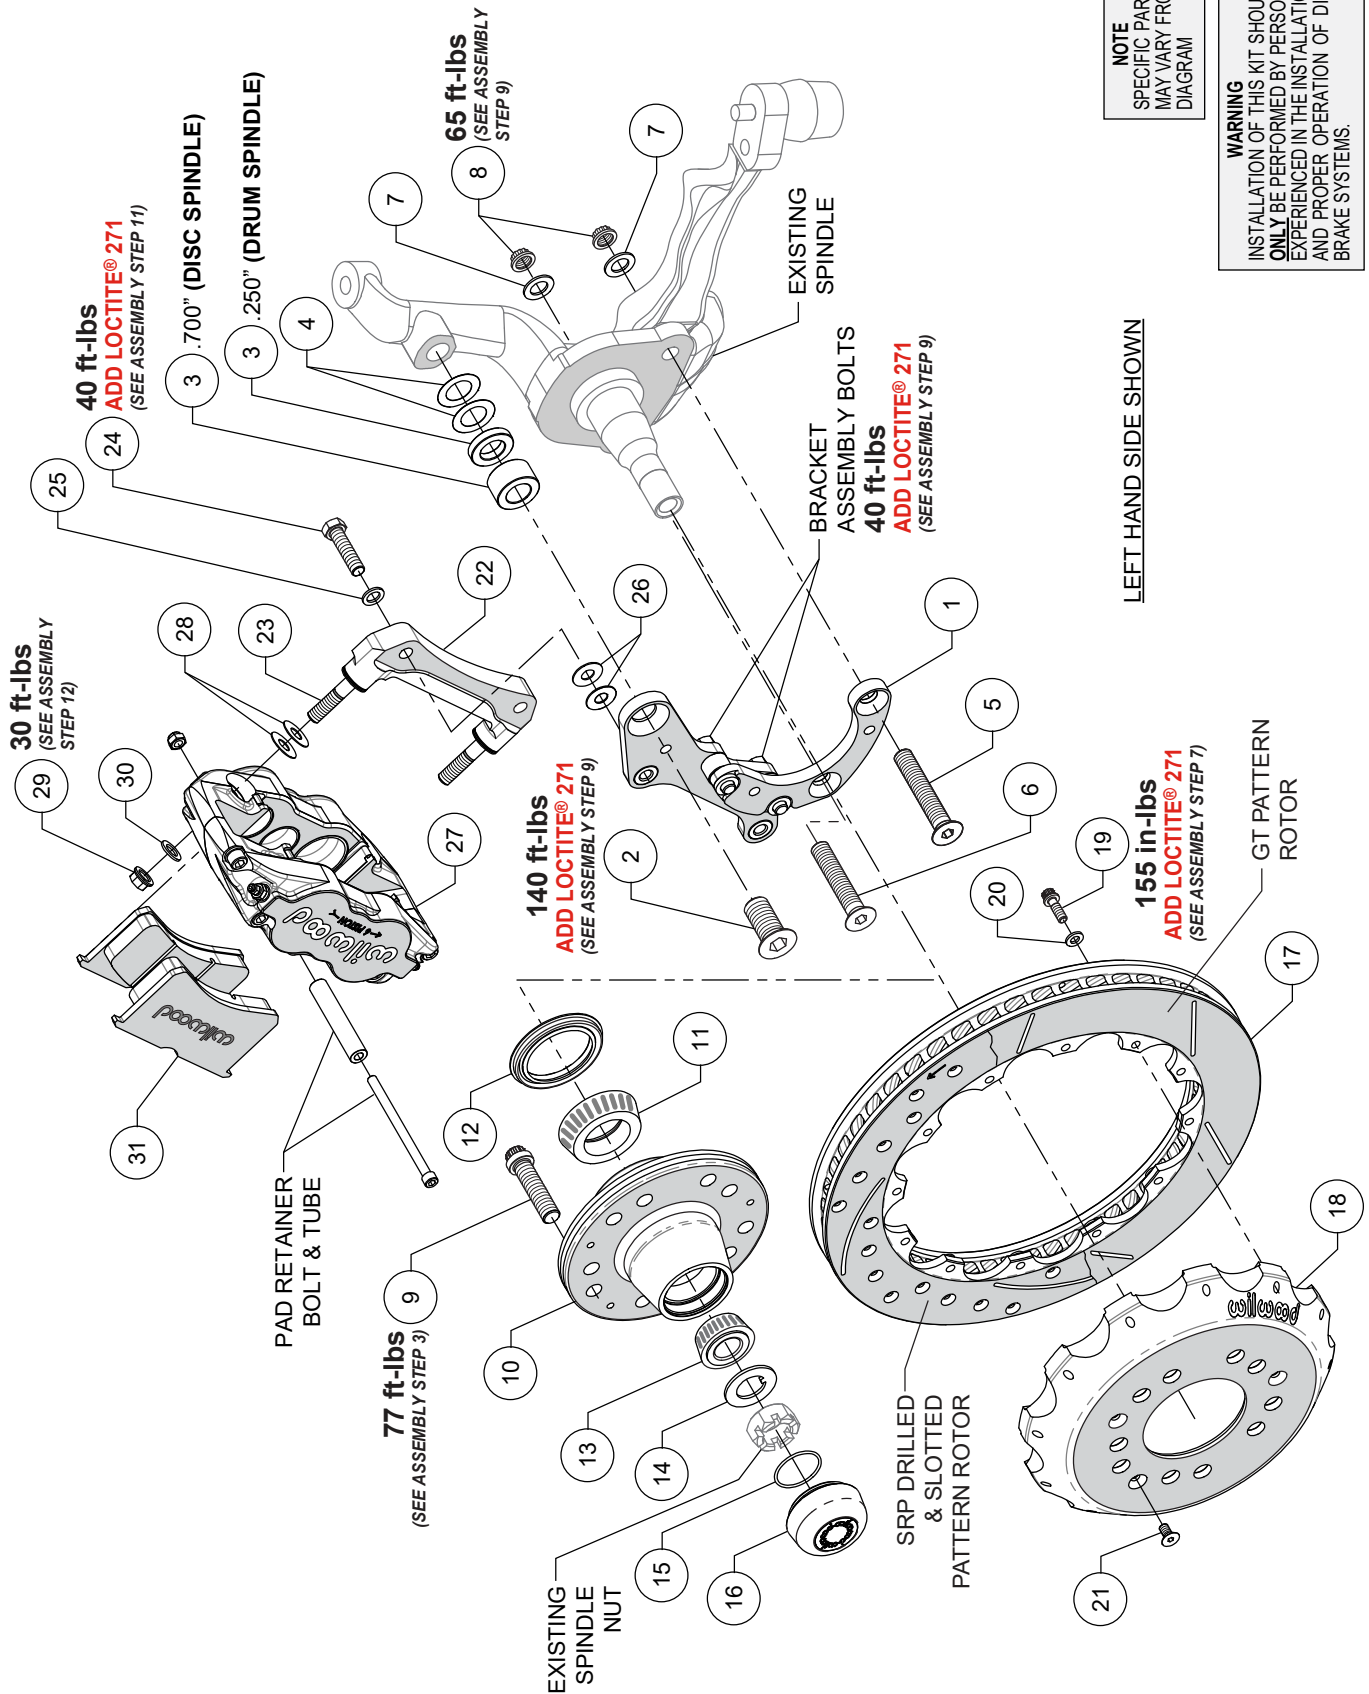
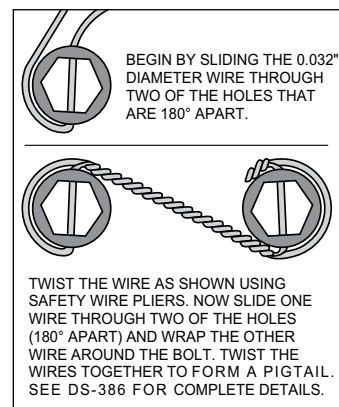
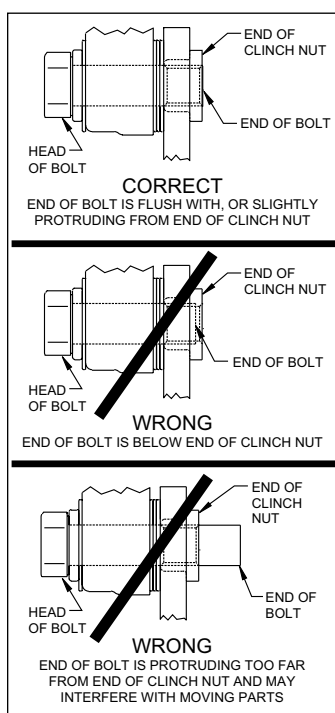

Figure 1. Typical Installation Configuration
Figure 3.
Figure 4. Clinch Nut Engagement Diagram
NOTE: Numbers in parenthesis refer to the parts list and Figure 1 on the preceding pages.
CAUTION: All mounting bolts must fully engage clinch nuts. Be sure to check that all bolts are either flush or protruding through flanged side of clinch nut after shimming, Figure 4.
STEP 1 Bracket assembly (1) should initially be installed with clean, dry threads on the mounting bolts. The bracket has been assembled at the factory for alignment purposes. **Loosen the two bolts that secure the brackets together so that the bolts are hand tight only.** This will enable the bracket assembly to be adjusted to accommodate various spindle tolerances during assembly. Orient the bracket (1) as shown in Figure 1, and Photo 1. Install using bolt (2) on the upper hole of bracket while doing one of the following depending on type of spindle being used:
For drum spindle: Use .250" thick spacer (3) and two .010" shims (4) between the spacer and spindle as shown in Figure 1 and Photo 2.
For disc spindle: Use .700" thick spacer (3) and two .010" shims (4) between the spacer and spindle as shown in Figure 1 and Photo 3.
STEP 2 Install bolts (5 and 6), washers (7) and nuts (8) in the lower holes, Figure 1. Note the location of the longer bolt (5). Temporarily tighten the mounting bolts (5), followed by the two bracket-to-bracket bolts. **NOTE:** *The bracket must fit squarely against the mounting points on the spindle.* Inspect for interference from casting irregularities, machining ridges, burrs, etc. Later, after the bracket alignment has been checked, the nuts will be torqued to specification.
STEP 3 Install wheel studs (9) from the backside of the hub (10), Photo 4. Torque to value shown in Figure 1. **NOTE:** *There are two five lug patterns in the hub (5 x 4.50" and 5 x 4.75").* Ensure the correct hub stud pattern is being used to fit the wheel application.
STEP 4 Pack the large inner bearing cone (11) with high-temp disc brake bearing grease (available from your local auto parts store) and install into the backside of the hub (10), Figure 1 and Photo 5. Install the grease seal (12) by pressing into the backside of the hub (10), Photo 5.
STEP 5 Pack the small outer bearing cone (13) with high temperature disc brake bearing grease and install into the front side of the hub (10). Slide the hub assembly onto the spindle. Secure using spindle washer (14) and existing OEM spindle nut. Adjust bearings per OEM specifications and install new cotter pin (not supplied).
STEP 6 Screw dust cap (16) into hub (10). Friction created by the o-ring (15) on the dust cap keeps it from unscrewing. **NOTE:** *The O.D. of the existing OEM spindle washer may be larger than the I.D. of the dust cap not allowing it to seat against the hub face. Therefore, use the spindle washer (14) supplied with the kit instead of the OEM washer.*
STEP 7 Orient the rotor (17) and the hat (18) as shown in Figure 1 and Photo 6. Attach rotor to hat using bolts (19) and washers (20). Apply red *Loctite*® 271 to the bolt threads and torque to value shown in Figure 1 using a criss-cross pattern. For an added measure of security, the bolts may be safety wired using standard 0.032 inch diameter stainless steel safety wire as shown in Figure 3. Refer to Wilwood's data sheet DS-386 (available at www.wilwood.com/Pdf/DataSheets/ds386.pdf) for complete safety wire installation instructions.
STEP 8 Slide the rotor/hat assembly (17/18) onto the hub (10). **NOTE:** The hat must fit flush against the hub face or excessive rotor run out may result. Install rotor locator screws (21) to keep the rotor/hat assembly in place while continuing with the installation.
STEP 9 Check that the bracket assembly (1) is aligned parallel to the rotor, Photo 7. If not, adjust by adding or subtracting shims (4) on the upper bolt (2) between bracket and spindle, Figure 1. Once the bracket alignment is correct, remove the upper bolt (2), apply red *Loctite*® 271 to the threads and torque to value shown in Figure 1. Torque lower lock nuts (8) to value shown in Figure 1. One at a time, remove the bolts that secure the two brackets of the bracket assembly (1), apply red *Loctite*® 271 to the threads and torque to value shown in Figure 1.
STEP 10 **NOTE:** Please reference the caution statement at the beginning of the assembly instructions. The radial mount caliper bracket (22) should initially be installed with clean, dry threads on the mounting bolts. Orient the bracket, as shown in Figure 1 and Photo 9, and install using bolts (24) and washers (25). Initially place two .035" thick shims (26) on each bolt between the radial mount caliper bracket (22) and bracket assembly (1), Photo 8. Temporarily tighten the mounting bolts. Later, after the caliper alignment has been checked, the mount bolts will be secured using red *Loctite*® 271.
STEP 11 **NOTE:** This kit contains distinct right and left hand calipers that must be mounted in a specific direction, as described below. Initially place two .035" thick shims (28) on each stud (23) between the caliper and the bracket, as shown in Figure 1 and Photo 10. Mount the caliper (27) onto the bracket (22) using lock nuts (29) and washers (30), Figure 1. Temporarily tighten the lock nuts. Ensure that the caliper is mounted so the largest pistons are at the rotor exit end of the caliper, in relation to the forward rotation of the rotor. View the rotor through the top opening of the caliper. The rotor should be centered in the caliper, Photo 11. If not, adjust by adding or subtracting shims (26) on bolts (24) between the radial mount caliper bracket (22) and the bracket assembly (1). Always use the same amount of shims on each of the two mounting bolts. **NOTE:** The end of each bolt (24) must be flush with or slightly protruding from the head of the clinch nut of bracket assembly as shown in Figure 4. If necessary, place spare shims between washer (25) and radial mount caliper bracket (22) to achieve the proper clinch nut engagement. Once the caliper alignment is correct, remove the bracket mounting bolts (24) one at a time, apply red *Loctite*® 271 to the threads, and torque to value shown in Figure 1.